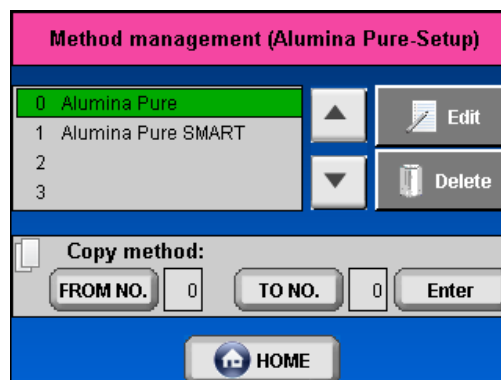

Figure 38: Selected method (green).
1. Select the method you want to copy – Figure 38.